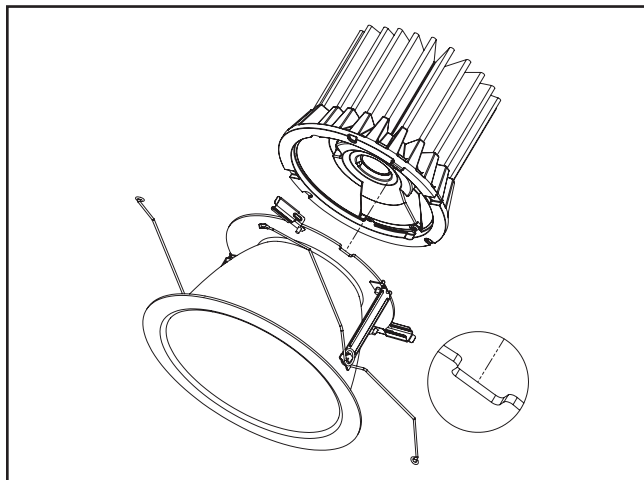

Figure 10.
2. Insert LED engine on to trim assembly. Align post on LED engine with slot on trim assembly. (Figure 10.)